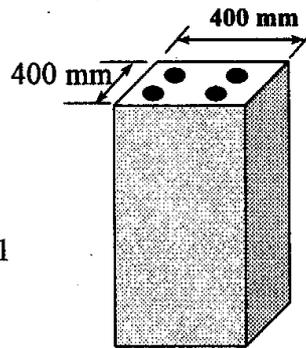

Figure 1
1. A column is constructed from high-strength concrete ($E_{con}=30\text{GPa}$) and four A-36 steel ($E_{st}=200\text{GPa}$) reinforcing rods as shown in figure 1. If the column is subjected to an axial load, determine the required diameter of each rod so that one-fourth of the load is carried by the steel rods and three-fourths by the concrete. (20%)